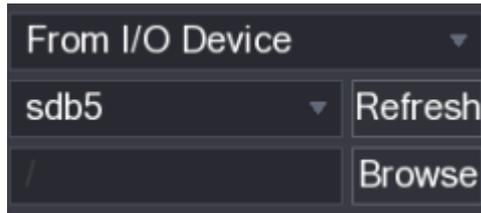

Figure 5-96
- **From I/O Device:** Recorded videos playback from external storage device. See Figure 5-96.